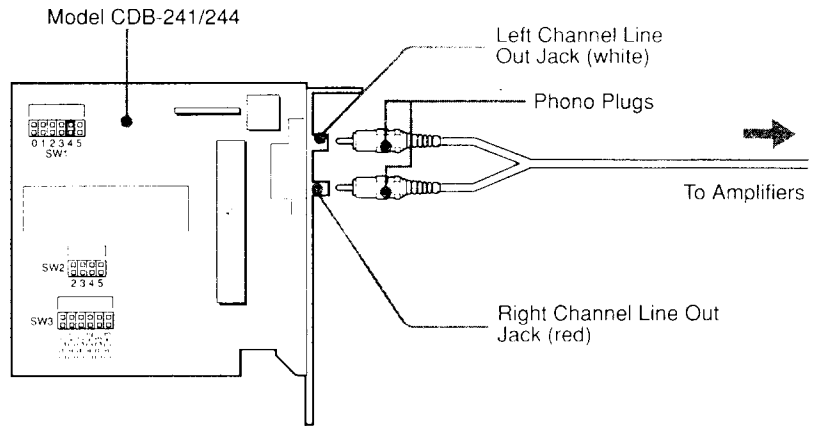

Figure 4-4. Attaching an Audio Connecting Cord
- 1 Attach the phono plugs on the audio connecting cord to the line out jacks on the Model CDB-241 or CDB-244. Attach the other end of the cord to your amplifier (see Figure 4-4).